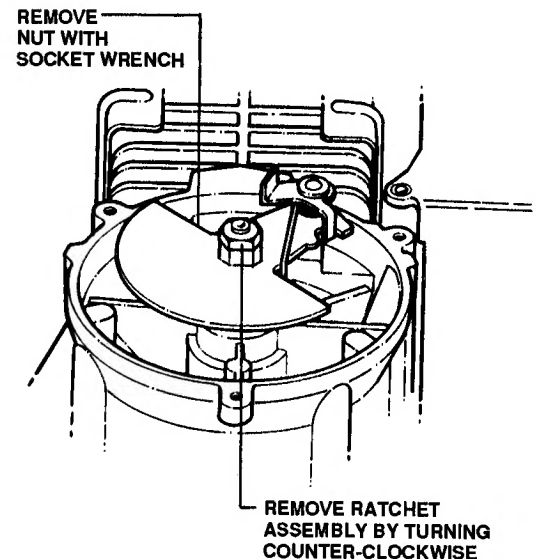

FIGURE 17
16. Using a 12mm wrench, hold the lower ratchet nut stationary and remove the upper ratchet nut. Next, remove the ratchet assembly by winding it off counter-clockwise. See Figure 17.